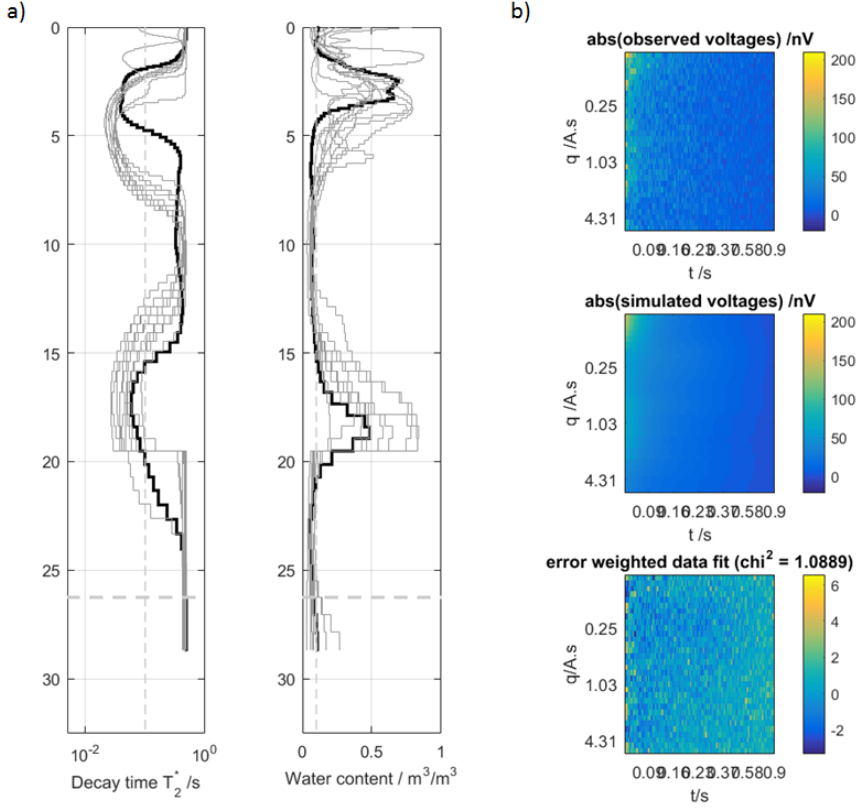

Figure 14: Inversion results example.
4. Run inversion: Running the inversion is done by pressing the button **Run**, a few seconds will be needed for the iterative process to converge, and the visualization windows will be updated with the inversion results, as shown on the example below Fig. 14.
In the case presented on Fig. 14, one could consider that the uncertainty is quite acceptable. There are variations in the water content precise values, but globally the two structures are detected each time, indicating that they are very likely to be real.